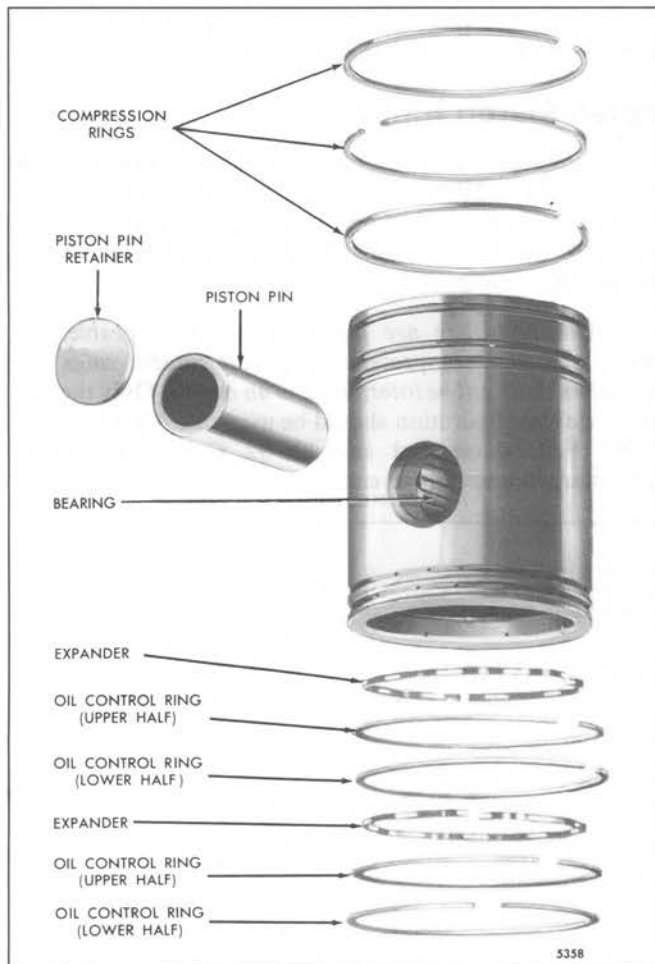

Fig. 13 - Piston Ring Location
Each piston is fitted with a fire ring, two compression rings and two oil control rings (Fig. 13).
1. Starting with the bottom ring, install the compression rings with tool J 8128 (Fig. 2). To avoid breaking or overstressing the rings, do not spread them any more than necessary to slip them over the piston. Refer to Fig. 13, 18, 19 or 20 for ring identification and location.